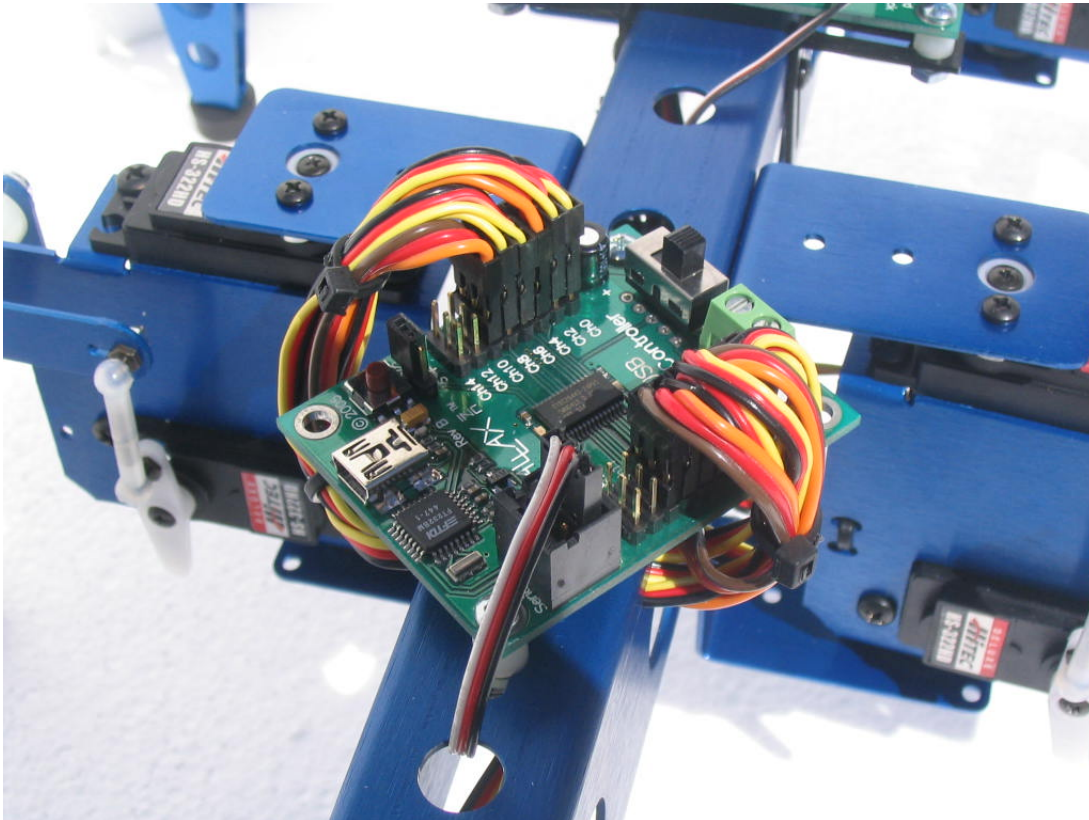

Figure 22 – HexRod PSC installation
25. Using (2) #4 - 1/2" screws, 1/4" nylon spacers, lock washers and nuts, install the Parallax PSC controller to the slots located at the top, front half of the Channel.
- For the HexRod, use the 2 slots located just in front of the center legs (figure 22).